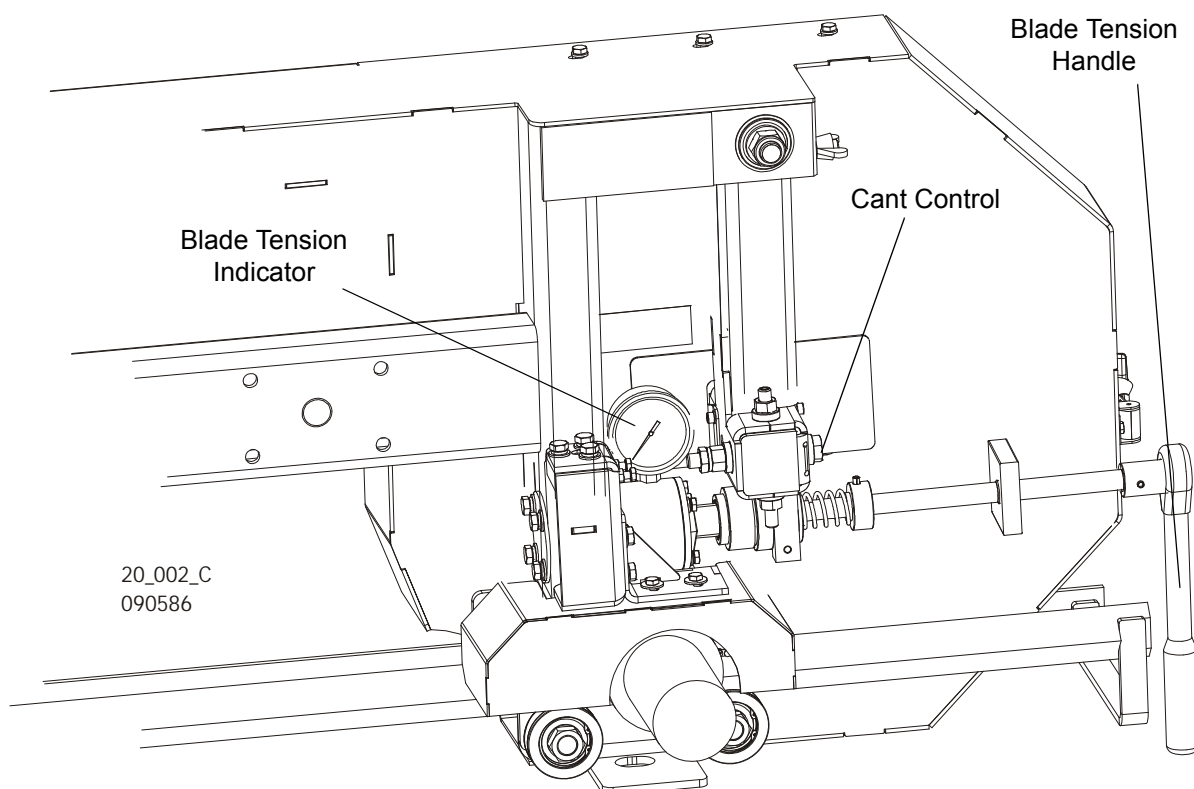

FIG. 3-11
See Figure 3-11. Turn the blade tension handle clockwise until the tension gauge indicates the recommended tension. Check the blade tension occasionally when adjusting the cant control or while cutting. As the blade and belts heat up and stretch, the blade tension will change. Also, ambient temperature changes can cause tension to change.
5. Use the cant adjustment bolt, shown in **Figure 3-11** to adjust where the blade travels on the blade wheels.